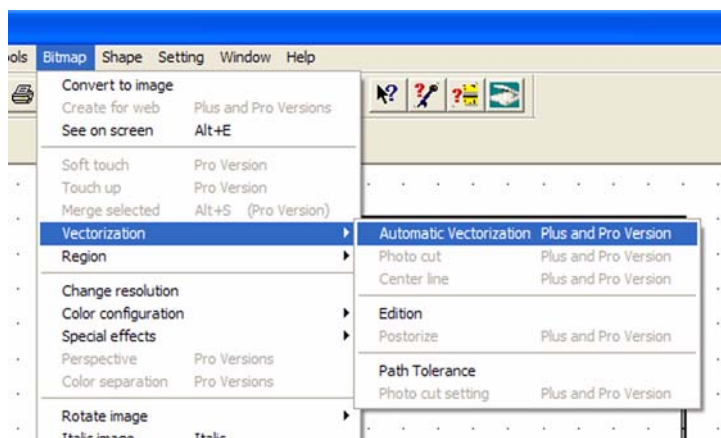

Figure 109
- 3 On the menu that opens, click **Vectorization**, and then click **Automatic Vectorization**. See figure 109. The **Vectorizing** tool, which looks like a magic wand, becomes available.